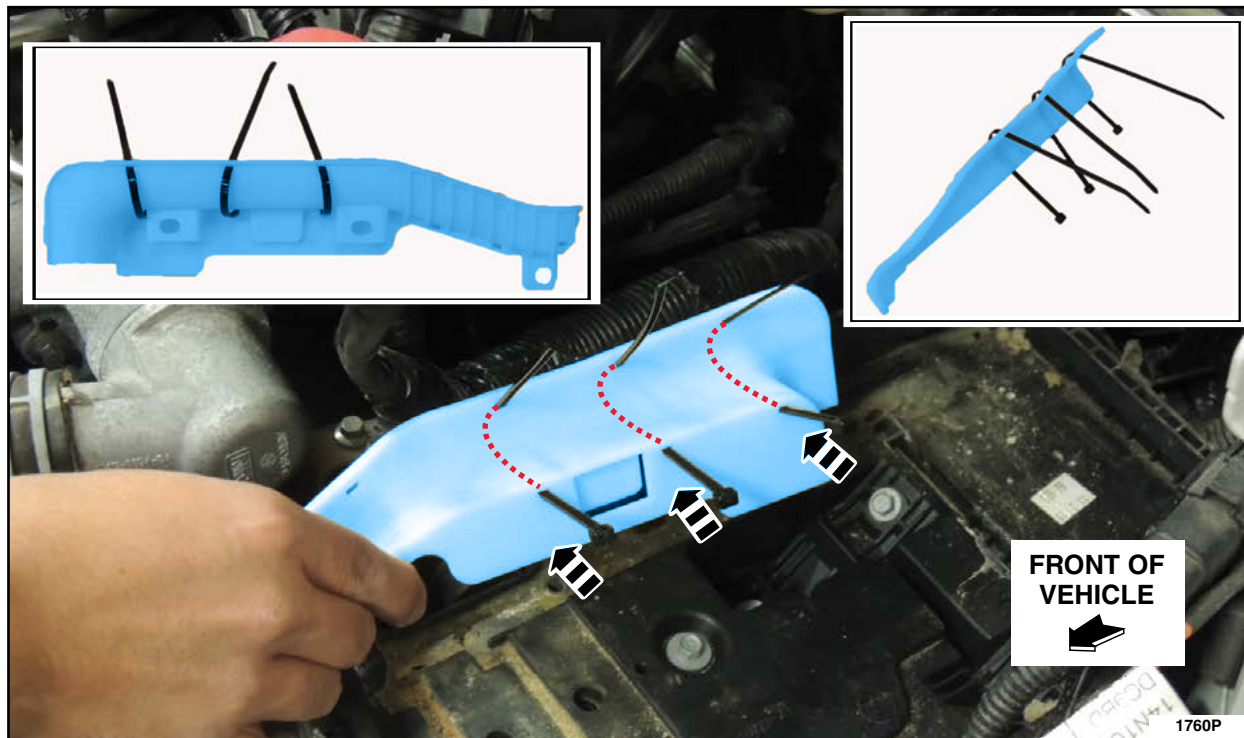

FIGURE 4
5. Before installing the shield, route three of the required tie straps through the rear (larger end) three sets of slots in the shield as shown in Figure 4.